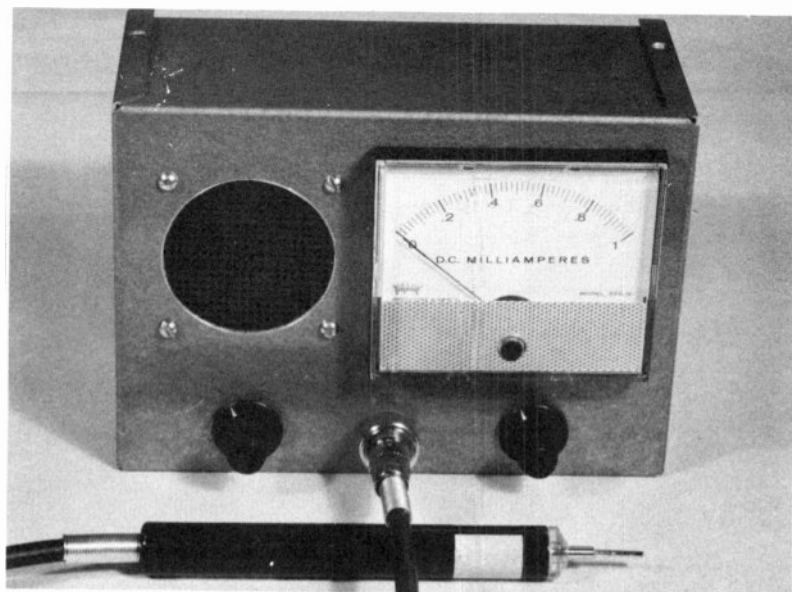
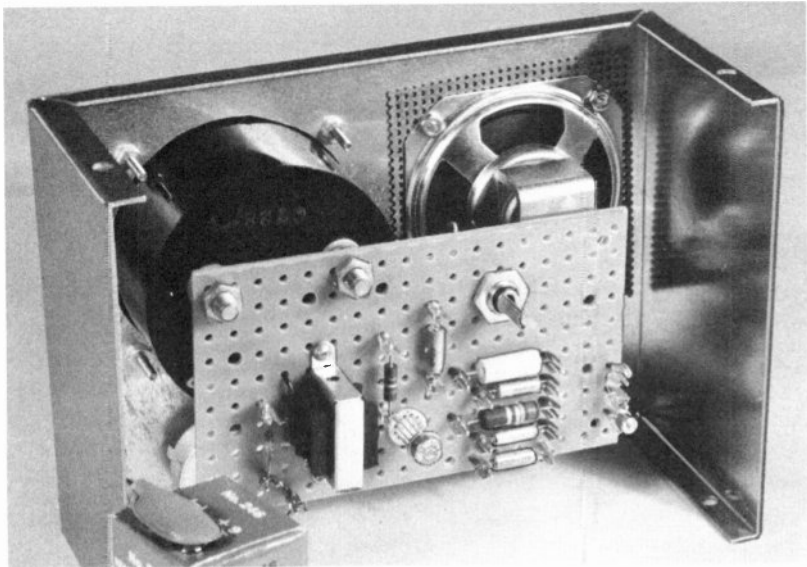

Fig. 7-1. Overall view of the AF-RF signal tracer.
Fig. 7-2. Inside view of the signal tracer.
Fig. 7-1 is an outside, overall view of the signal tracer with one of the two test probes plugged in. Fig. 7-2 shows the inside
This instrument is built in a 7-inch x 5-inch x 3-inch gray hammertone aluminum box (Bud CU-2108-A *Minibox*, Allied No. 42 J 7624). The meter is a 3½-inch rectangular 0-1 DC milliammeter (Triplet 320-G, Allied No. 55 J 6635) and the speaker a 2½-inch square unit (Utah SP25A, Allied No. 16 J 3500). The circuit is wired on a 2¾-inch x 4¾-inch perforated board which is supported by the two ¼-inch terminal screws on the back of the meter (Fig. 7-2). All components are on this board, except gain-control potentiometer R1, speaker switch S2, and input jack J1, which are on the front panel. (In Fig. 7-1, the speaker switch is under the speaker, and the gain control is under the meter.)
pull power output). An outboard 2N4340 field-effect transistor (FET), Q1, has been inserted as a source-follower between input jack J1 and the IC, to provide high input impedance for negligible loading of a circuit under test. (The net input impedance is approximately 1-megohm, the resistance of potentiometer R1.) The leads of the FET are soldered to three push-in terminals on the board (Fig. 7-5A); no transistor socket is required. The circuit draws 13 mA at zero signal, and 88 mA at maximum signal. At this drain, the heavy-duty 9-volt transistor battery seen in Fig. 7-2 (Eveready No. 246, Allied
The main circuit is assembled on a 2 $\frac{3}{4}$ -inch x 4 $\frac{3}{4}$ -inch piece of perforated phenolic board (Allied No. 47 J 0919). Figs. 7-1, 7-5A, and 7-5B show layout of components on this board. All resistors and capacitors except R3, as well as diode D1 and transistor Q1, are soldered above board to Vector T9.4 push-in terminals (Allied No. 47 J 0878) which are simply pressed into the holes of the board. Resistor R3 is soldered between terminals 14 and 15 under the board, as shown in Fig. 7-5B. Potentiometer R6 and the IC socket (Augat 8058, Allied No. 47 J 6087) are mounted in $\frac{3}{8}$ -inch diameter holes drilled in the board. The board is held by the terminal screws of the meter. All wiring is under the board. On the front panel are mounted potentiometer R1 (and its ON-OFF switch, S1), input jack J1, meter M1, speaker SPKR, and speaker switch S2. Numbers on Figs. 7-5B and 7-6 show how connections are made between the board and these components.
6. Assemble and wire the two test probes, attaching a concentric plug on the end of each shielded cable (one plugged-in probe is shown in Fig. 7-1).